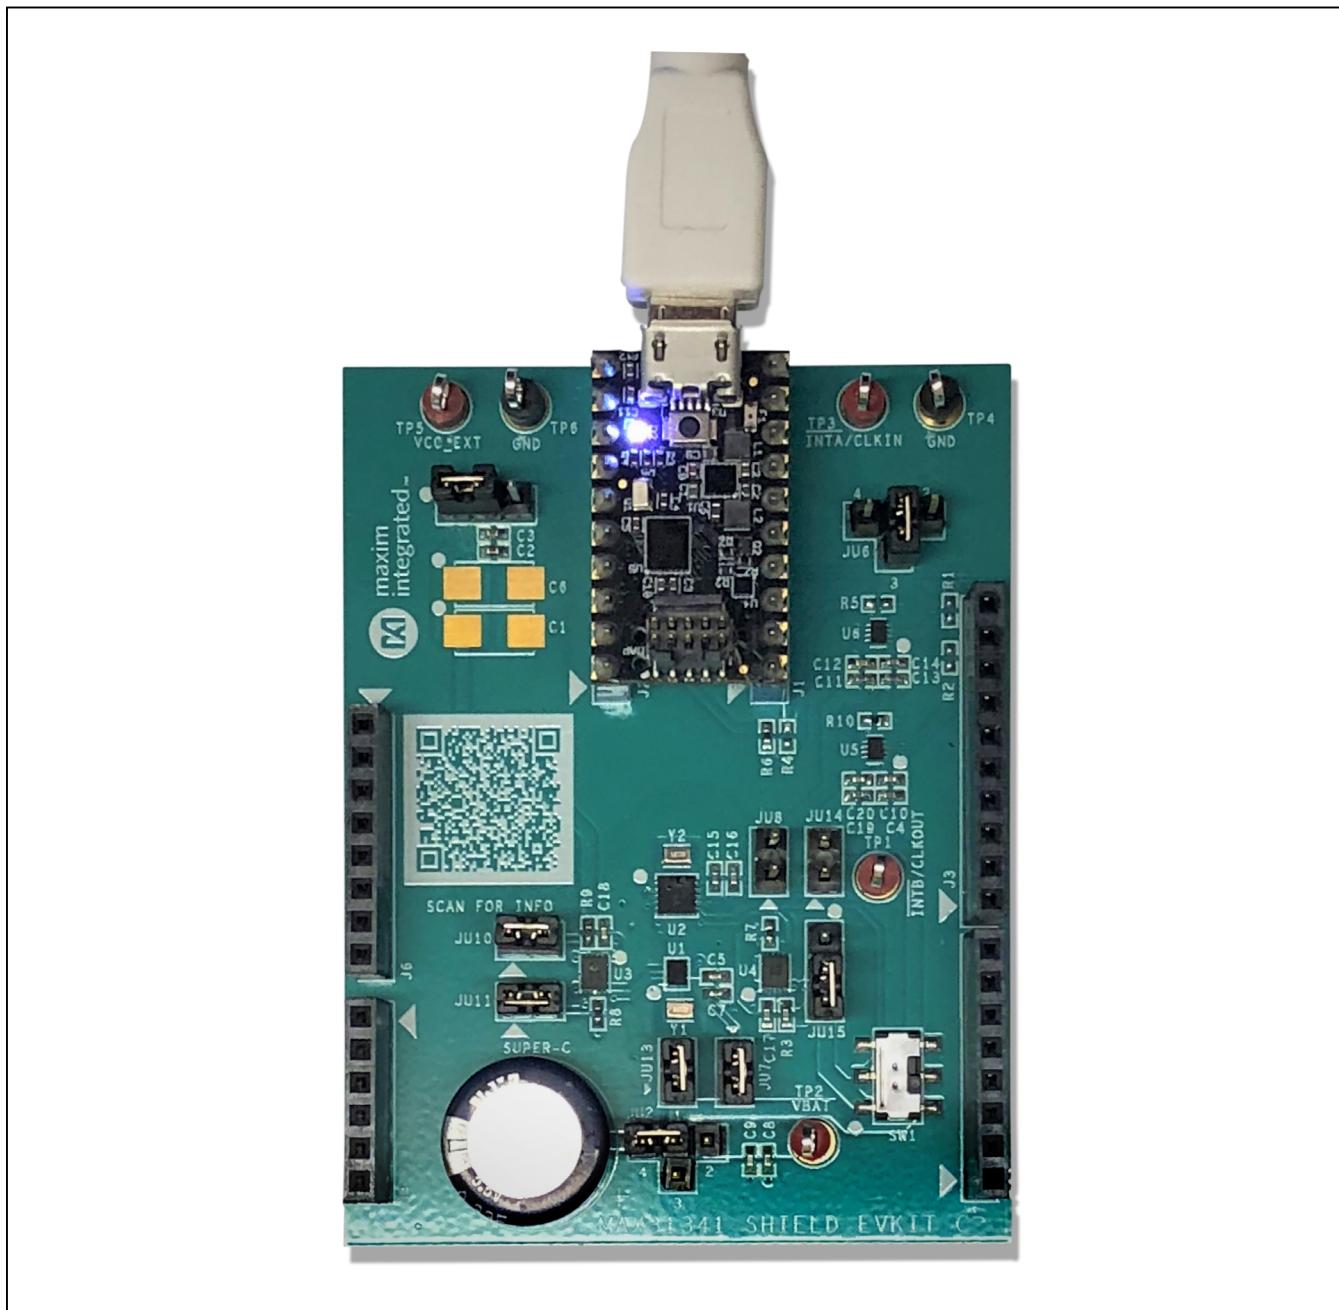

Figure 2. USB Connection
- 4) Connect the MAX32625PICO I²C circuit board to the EV kit at the location shown as DS3900 (Figure 2).